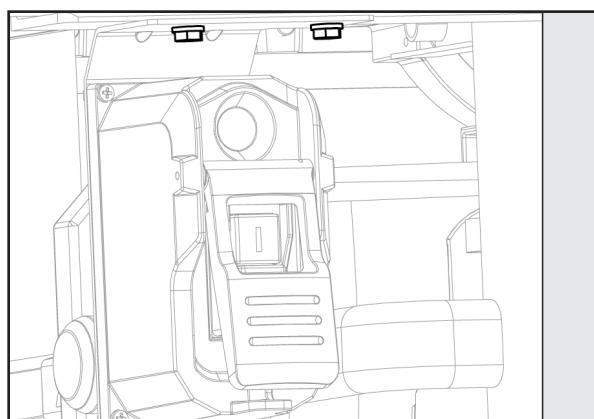

FIGURE 14
1. Attach the fence guide to the front rail using four (for 30" versions) six (for 52" versions) 1/4-20 x 1/2inch hex button head screws and 1/4-inch spring washers through the holes (B) on the bottom side of the front rail.
2. Align the two holes in the power control box bracket with the holes underneath the front rail, shown in Figure 14 (C), located on the left side of the saw. Secure the power control box to the front rail using two 1/4-20 x 1/2-inch hex head cap screws with spring washers .